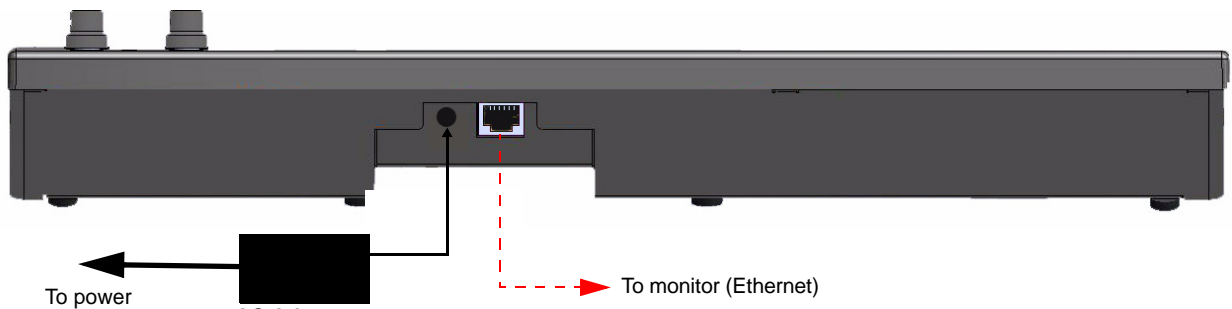

Figure 2-3 Connecting the Remote Rear-Panel Ports
3. Connect the Remote Control to the PRM-4200 using the provided Ethernet cable, then connect the provided power supply to an AC power source and connect the Remote to the DC side of the power supply, as shown in Figure 2-3.